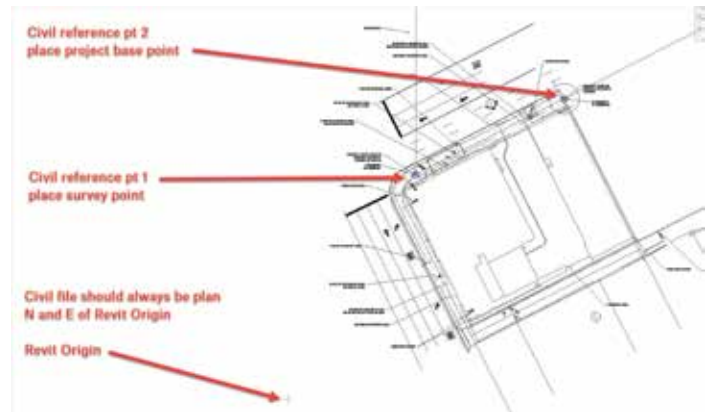

Figure 1
7. Move the project base point to the second reference point on the plan (Figure 1).